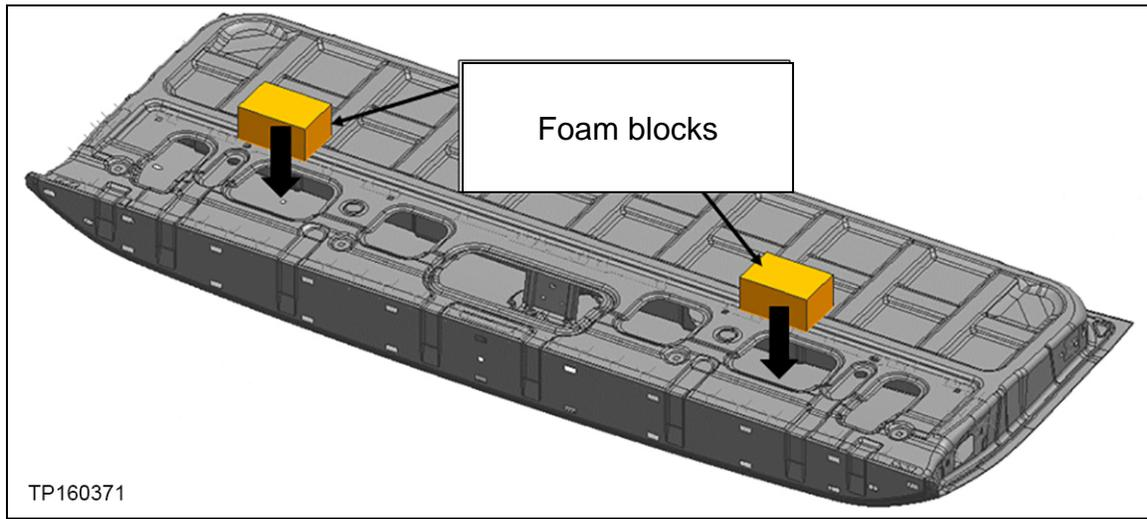

Figure 2
2. Install two foam blocks into the tailgate (IF NOT Previously Installed) as shown in Figure 2 as follows: